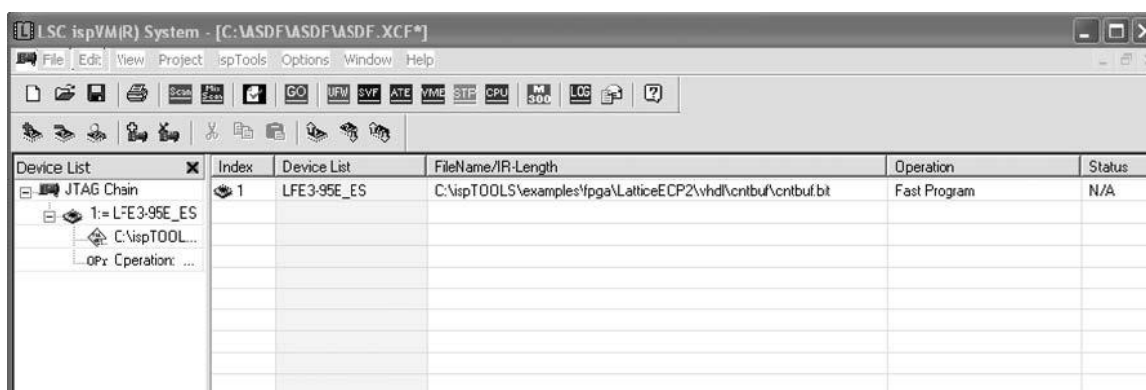
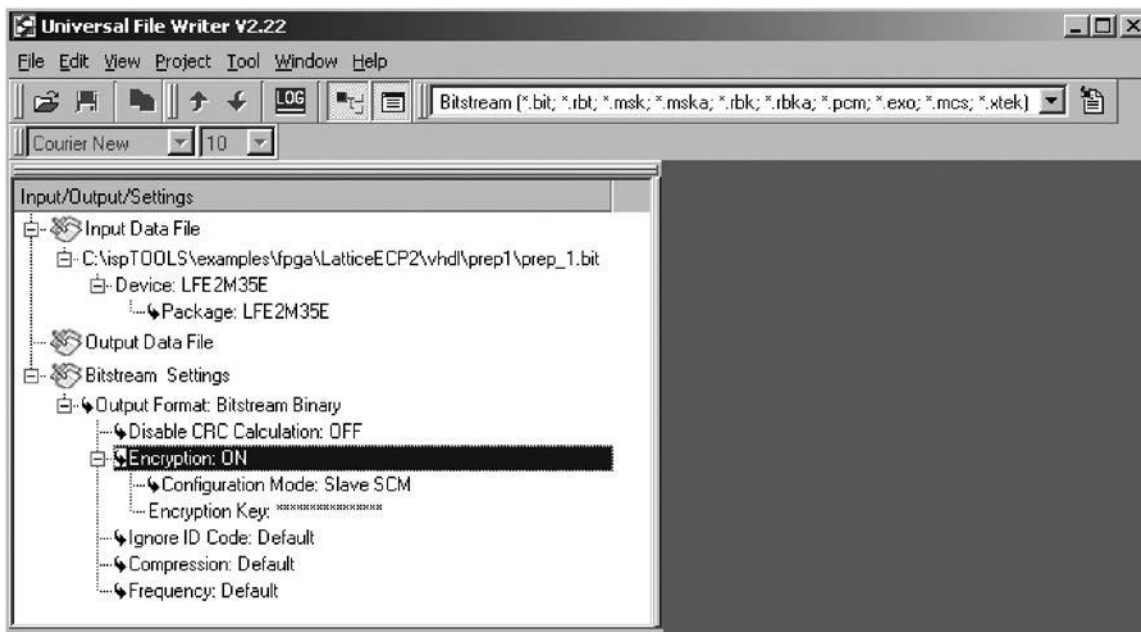

Figure 10.1. ispVM Main Window
Figure 10.2. Universal File Writer (Encryption Option)
1. Start ispVM. You can start ispVM from the Tools menu in ispLEVER or from the **Start -> Programs** menu in Windows. ispVM is not accessible from the Tools menu in Diamond. You should see a window that looks similar to Figure 10.1 Click on the UFW button on the toolbar. You can see a window similar to Figure 10.2.
2. Start the ispVM System software. ispVM can be started from within the ispLEVER Tools menu or from the Start -> Programs menu in Windows. ispVM cannot be invoked from the Tools menu in Diamond. You should see a window that looks similar to Figure 10.1. If the window does not show the board's JTAG chain then proceed as follows. Otherwise, proceed to step 3.
- a. Click the **SCAN** button in the toolbar to find all Lattice devices in the JTAG chain. The chain shown in Figure 10.1 has only one device, the LatticeECP3.
6. From the main ispVM window (Figure 10.1) click on the green **GO** button on the toolbar to program the key into the LatticeECP3 one-time programmable cells. When complete, the LatticeECP3 only configures from a bitstream encrypted with a key that exactly matches the one just programmed.